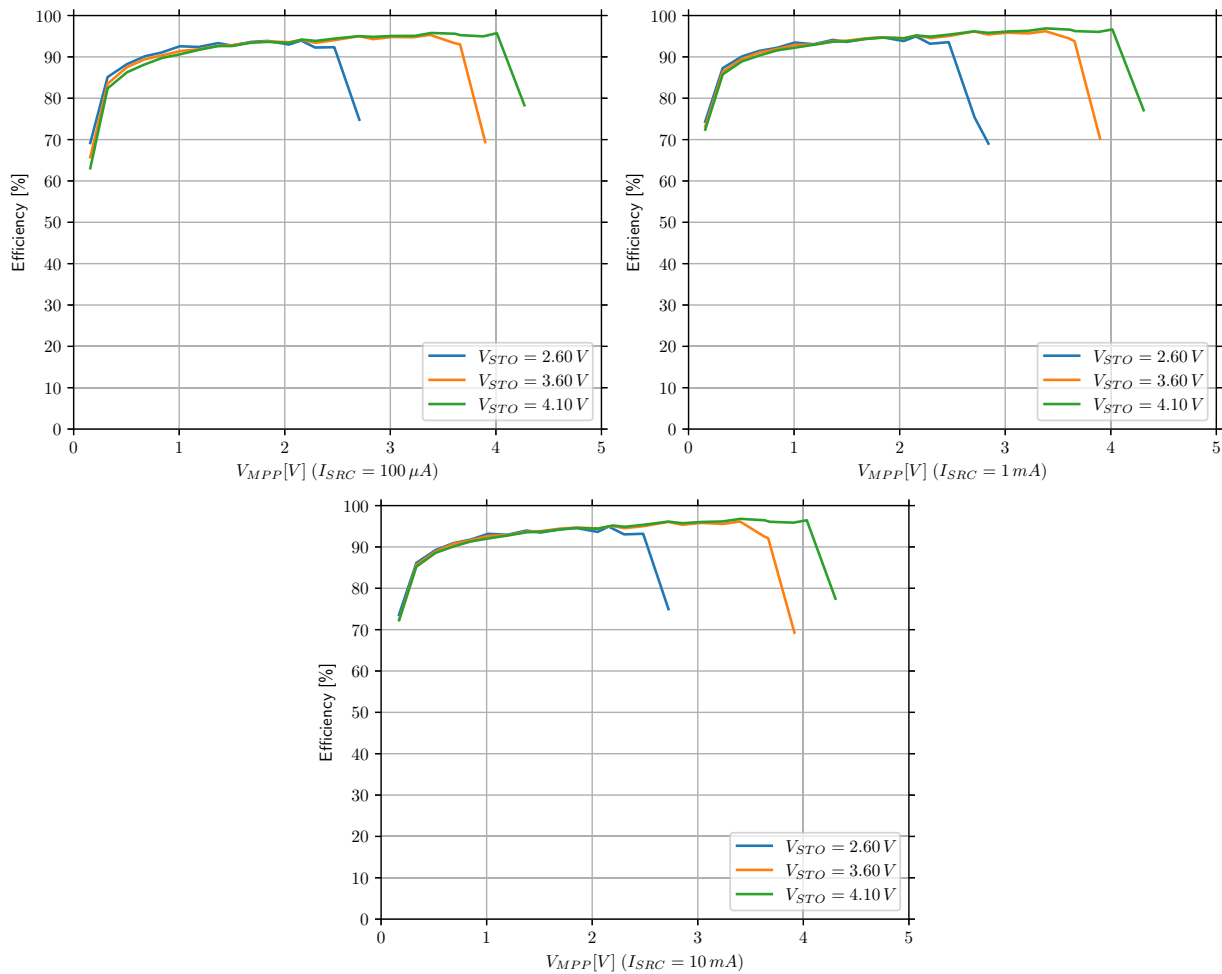

Figure 7: Boost converter efficiency with $L_{BOOSTx} = 33 \mu H$ (Coilcraft LPS4018-333MRB), $BSTxCFG.TMUL T = 0x02$ (x3)
- Optional: a device able to act as an I²C master and send I²C commands to the AEM13920. Only useful when testing settings that are not accessible through the configuration pins, such as boost timings. Please note that, the results shown on Figure 7 are with x3 boost timing, which has to be set to this value through I²C communication.